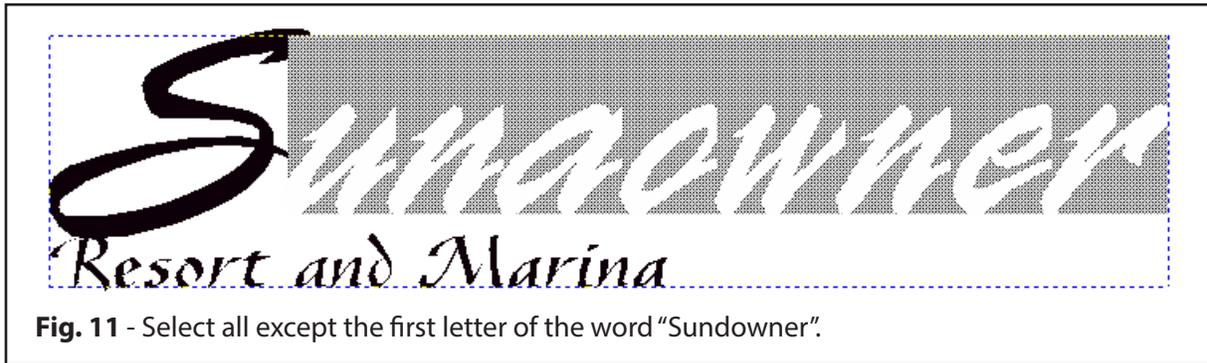

Fig. 11 - Select all except the first letter of the word “Sundowner”.
1. Double click the text. Highlight all of the letters in the first line except the capital S, by clicking and dragging the mouse cursor across the area you want to select (Fig. 11).